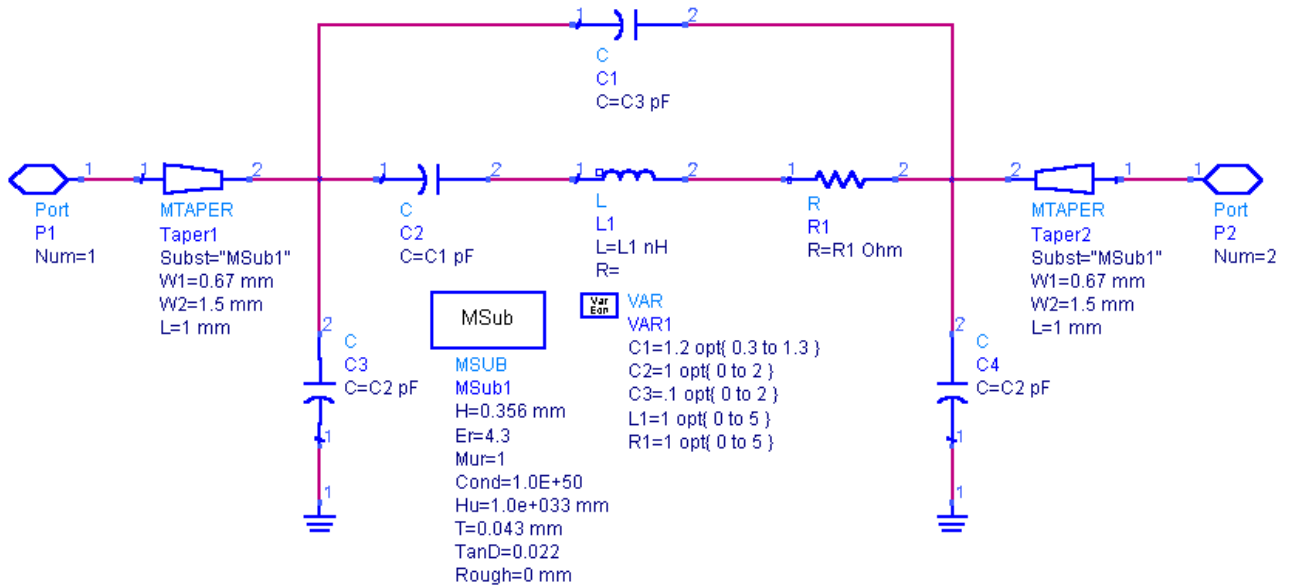

Figure 3. Schematic representing the equivalent circuit (“model circuit”). The variable values shown have no specific significance.
- 2) Create the equivalent circuit model using lumped elements (see Procedure #1) and microstrip tapered-line elements (see Procedure #6). Attach a Port (not Termination) to each side of the schematic (see Figure 3.) Use the schematic name cap\_model\_1p2pF\_XXX.
- m) Place capacitors, an inductor and a resistor into the schematic to build up the circuit shown in Figure 3. When you specify the parameters for each element, **assign the variable names** (e.g., C1) instead of numerical values. Use units of pF, nH, and Ohms. (For the inductor element you can leave the R parameter unspecified.) Be certain to check the units, as ADS will often default to “none” for the units when the variable value (or name) is modified.